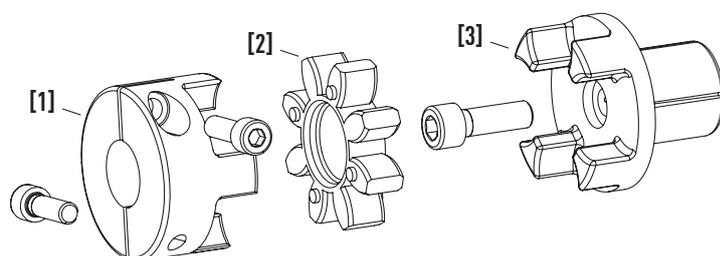

Fig. 6.67 Coupling assembly variant 2: clamping hub with two clamping screws
- Variant 2 with two clamping screws, see Fig. 6.67